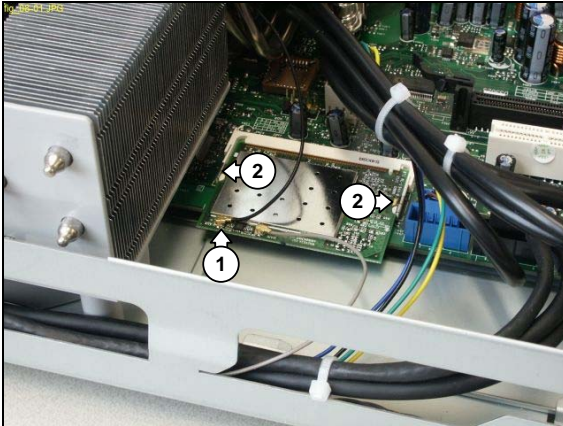

Figure 12.8-1
3. Disconnect the antenna cables (1) from the WLAN card. See Figure 12.8-1.
4. Push the 2 locking tabs (2) outwards to release the WLAN card. See Figure 12.8-1.